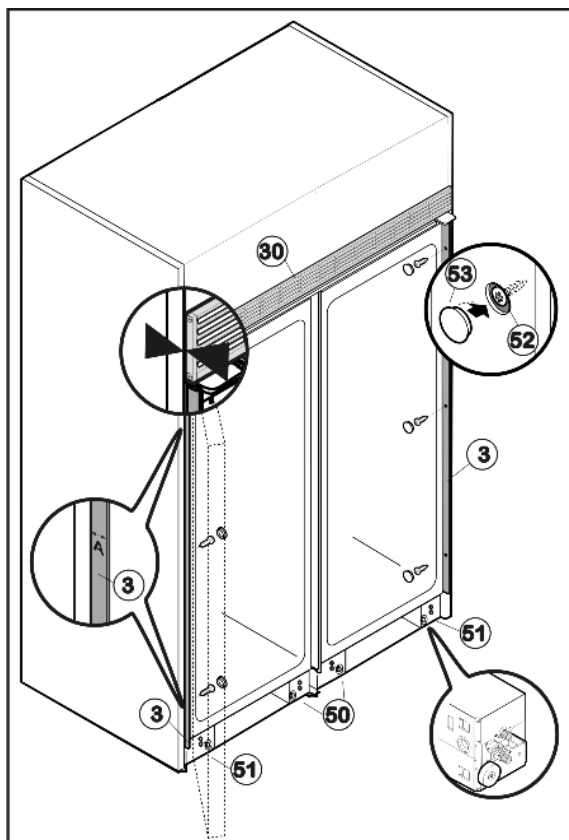

Fig. 58
- Push the appliance into the recess until the rear edge of the ventilation grille Fig. 58 (30) is flush with the front edge of the side wall of the cabinet.
- Completely raise the levelling wheels at the front and back of the two center roller bases Fig. 58 (50) such that the attached appliances are resting on the outer roller bases only.
- Align appliance inside the recess by adjusting the outer roller bases Fig. 58 (51) and using a spirit level.
- At the top and bottom of the recess check the gap **A** between the front edge of the installation strip Fig. 58 (3) and the front edge of the side wall of the unit. It must be 1/2 " (13 mm). Realign the appliance in the recess if required.
- Secure appliance inside the recess using three screws Fig. 58 (52) hinge side of each appliance. Do not scratch the side installation strip Fig. 58 (3) when doing so.
- Place cover caps Fig. 58 (53) over the screws.
- Being careful not to affect the level, lower the levelling wheels in the center roller bases Fig. 58 (50) until they are resting on the floor.
- Fit lower ventilation grille Fig. 58 (54) flush with the floor such that the rubber lip is at the top. It is held in place via magnets.